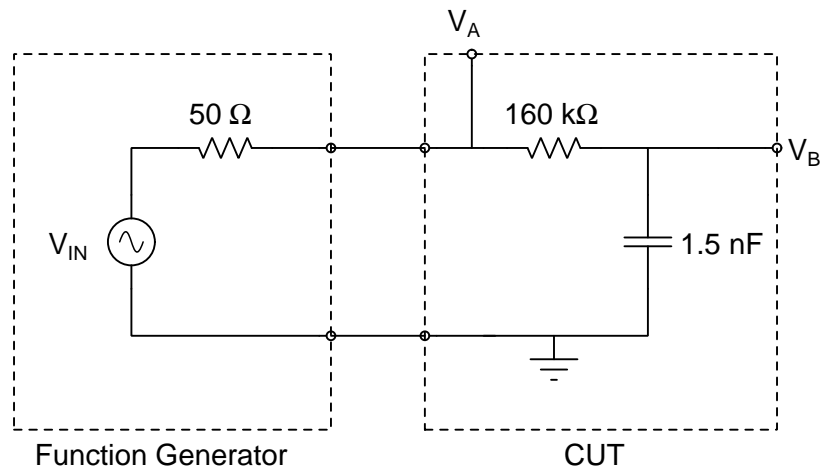

Figure 1: Circuit to be analyzed in Lab #2.
The circuit under test (CUT) is shown in Figure 1. Node voltages V_A and V_B will be measured using the two input channels on the oscilloscope. As in Lab #1, the input impedance of each channel will influence the circuit behavior. The 1X probe connecting the function generator to the circuit, and the scope probes connecting the CUT to the oscilloscope are not explicitly shown in Figure 1. However, the capacitance of these probes can influence the circuit behavior.
2. For the RC circuit shown in Figure 1:
- (a) For the circuit in Figure 1, set the peak input voltage set to 1 V, and simulate the node voltages V_A and V_B and the phase shift (PS) in degrees between the two nodes. Record your results in the “Ideal Simulated Circuit” columns in Table 1.
- (b) Modify the circuit schematic in Figure 1 to include the probe capacitances and the input impedances of the two oscilloscope channels at nodes V_A and V_B . With the peak input voltage set to 1 V, simulate the node voltages V_A and V_B and the phase shift (PS) in degrees between the two nodes. Record your results in the “Complete Simulated Circuit” columns in Table 1.
2. Measure the values for each component needed in the circuit shown in Figure 1 using the LCR meter and a DVM. When measuring the capacitance, measure both C and DF at frequencies of 1 kHz and 10 kHz. Calculate the ESR of the capacitor at these frequencies. Can the ESR be ignored? Explain your reasoning in your notebook.
3. Build the circuit shown in Figure 1: